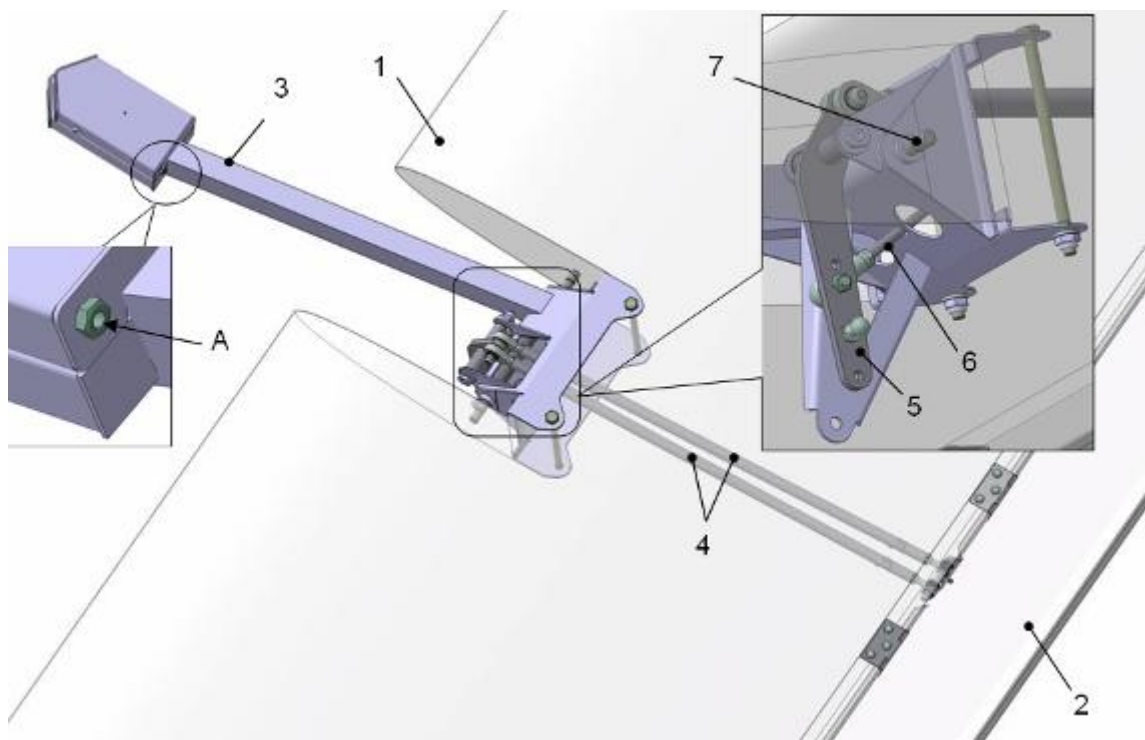

Fig. 4-27
1. Make sure that the push-rods (4) are connected to the Trim Tab, the Stabilator Mounting Pivot is equipped with Trim Tab Rocker (5) and Rod (6), the Stabilator axle (7) is inserted, Fig. 4-27.
Make sure that the push-rods (4) are connected to the Trim Tab, the Stabilator Mounting Pivot is equipped with Trim Tab Rocker (5) and Rod (6), the Stabilator axle (7) is inserted, Fig. 4-27.
During the Stabilator balancing, the bolt M8 in the hole A (Fig. 4-27) has to be screwed-in, but not tightened.
Once the Stabilator is set on the supports in correct configuration (Fig. 4-27) and stopped rocking on its axis under its own weight, depend on deflection direction perform the balancing by increasing or reducing of the balancer weight until the Stabilator airfoil chord is aligned with the horizon.
Screw the bolt M8 out of the hole A Fig. 4-27 using socket wrench 13 (mm).
Put the covered with epoxy resin lead pellets into the hole A. If necessary, drill out material through the hole A (Fig. 4-27) to accommodate enough lead pellets. After balance is set, tight the bolt in the hole A with torque 22.5 Nm (200 lb-in) after applying lock liquid of middle strength Loctite 243.
Screw the bolt M8 out of the hole A (Fig. 4-27) using socket wrench 13 (mm).
Using a drill up to 6 mm drill out needed quantity of the material through the hole A (Fig. 4-27). Drill out the material in small portions and check balance each time. Upon completion tighten the bolt with torque 22.5 Nm (200 lb-in) after applying lock liquid of middle strength Loctite 243.